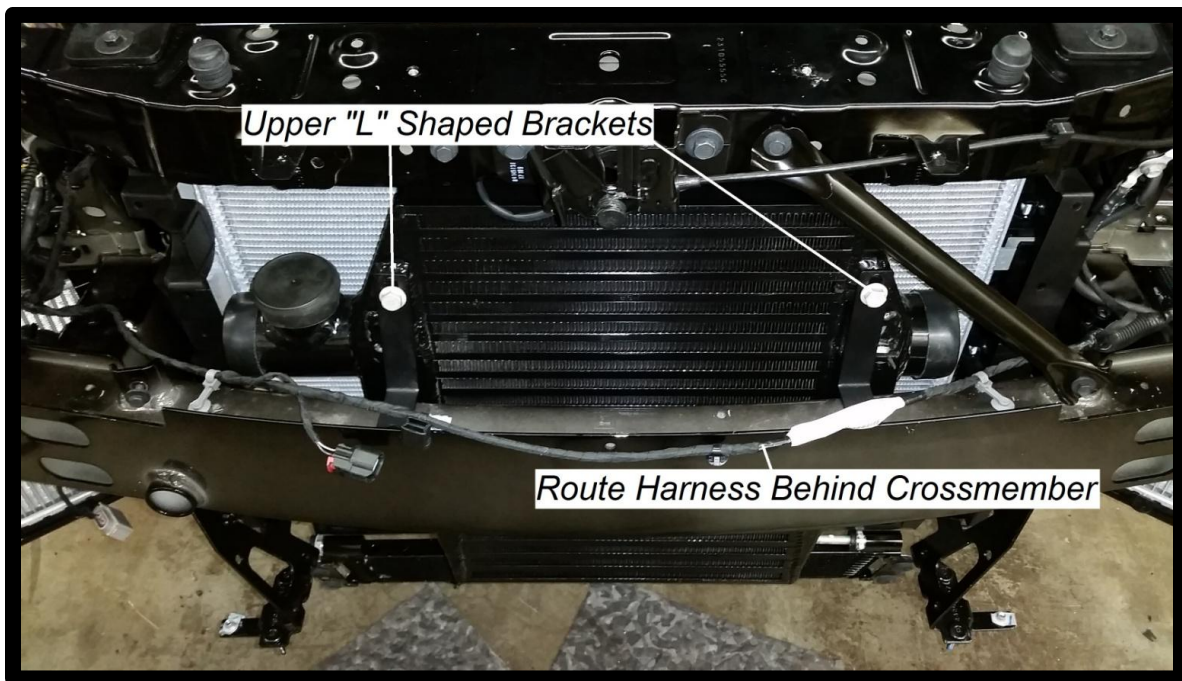
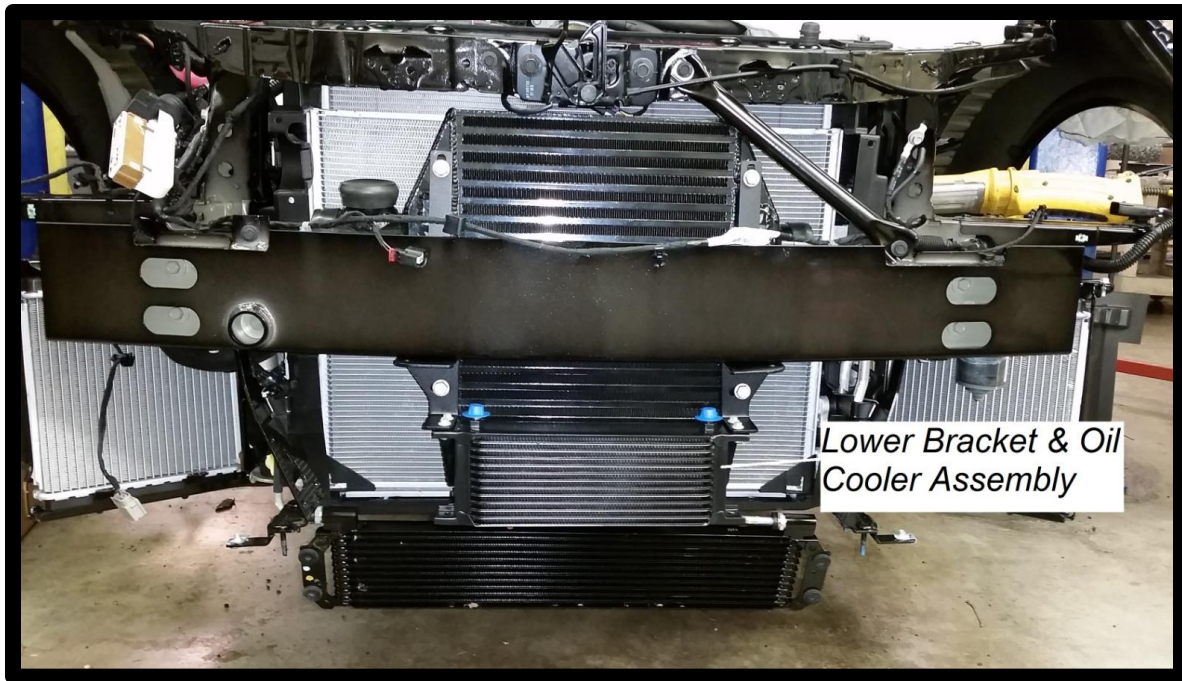

Figure 34: Air-Air Intercooler Positioning
Figure 35: Intercooler and Oil Cooler Installation
1. To begin the assembly, the air-air intercooler will be installed first. The intercooler will be positioned behind the front cross member as shown in Figure 34. The intercooler must be installed from the bottom without any of the brackets attached. Once the intercooler is in place loosely install the upper "L" shaped brackets with two of the supplied M8X1.25X12MM bolts. Then install the lower brackets with the remaining M8X1.25X12MM bolts, as seen in Figure 35.